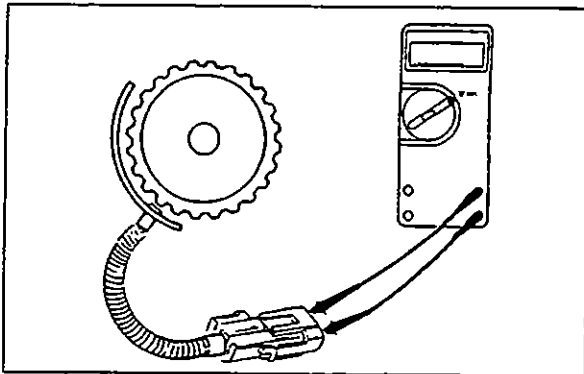

Fig. 1.1.41
**Correction:** With engine running, measure AC voltage signal between 500-800 RPM and record reading (Fig. 1.1.41). Above 1000 RPM, the VAC should be greater. If it is not, replace the sending unit.